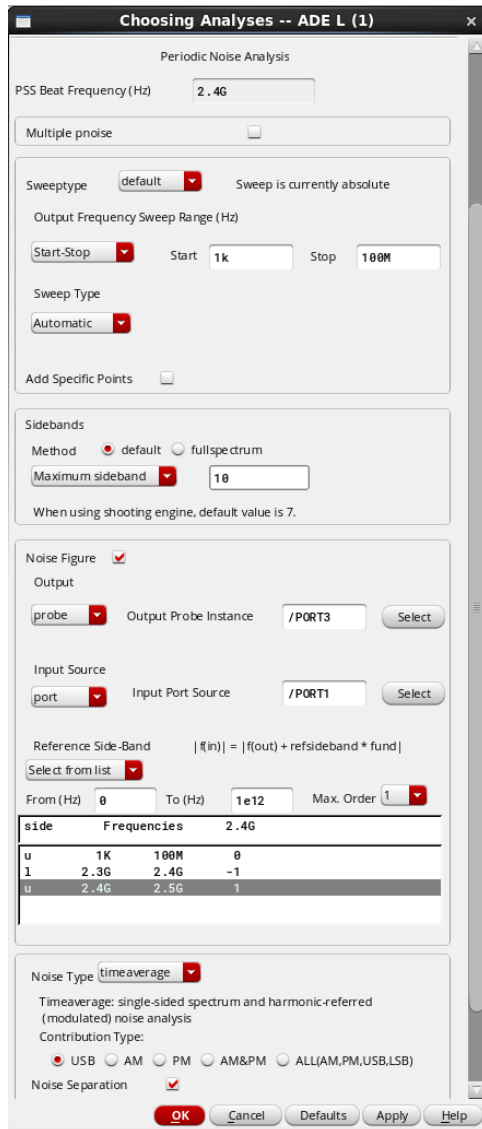

Fig. 25
- Configure the Pnoise setup form as Fig. 25 illustrates. Select IF port as “output port” and RF port as “input port”.